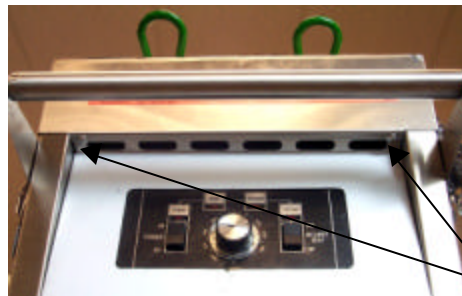

Fig: 10-2
3. Remove the two screws securing the controller bezel to the front of the fryer. **Fig 10-2.**